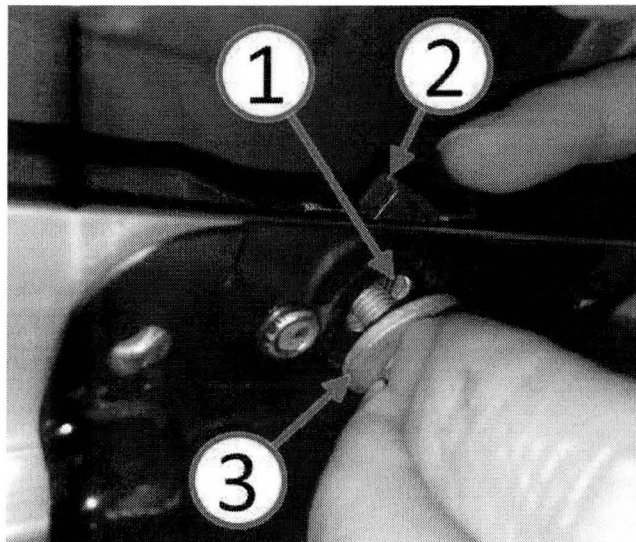

Fig. 4 Install Sunroof Module Fastener
9. Hand start fastener (3) and verify alignment through washer (1) and into U-clip nut (2). Tighten fastener (3) to 9 N·m (80 in. lbs.) (Fig. 4).